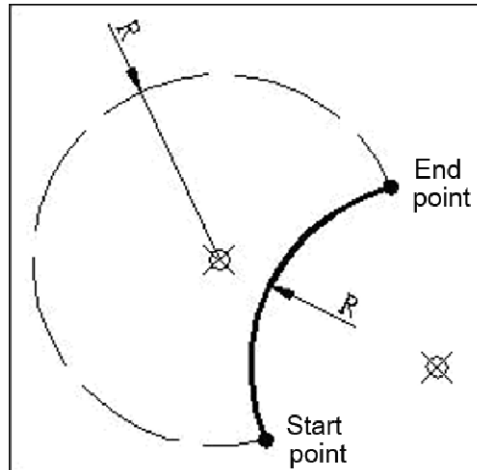

Fig. 3-4-3
- When R instruction is used, it theoretically may be two arcs greater than  $180^\circ$  and less than  $180^\circ$ . The arc less than or equal to  $180^\circ$  may be valid in this system. (See Fig. 3-4-3 below). If the end point is not on an arc defined by R, the system will give an alarm;